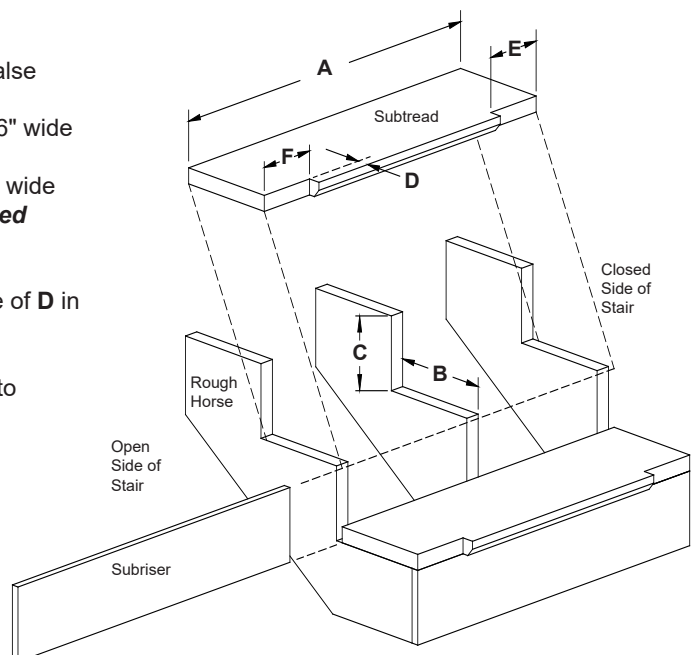
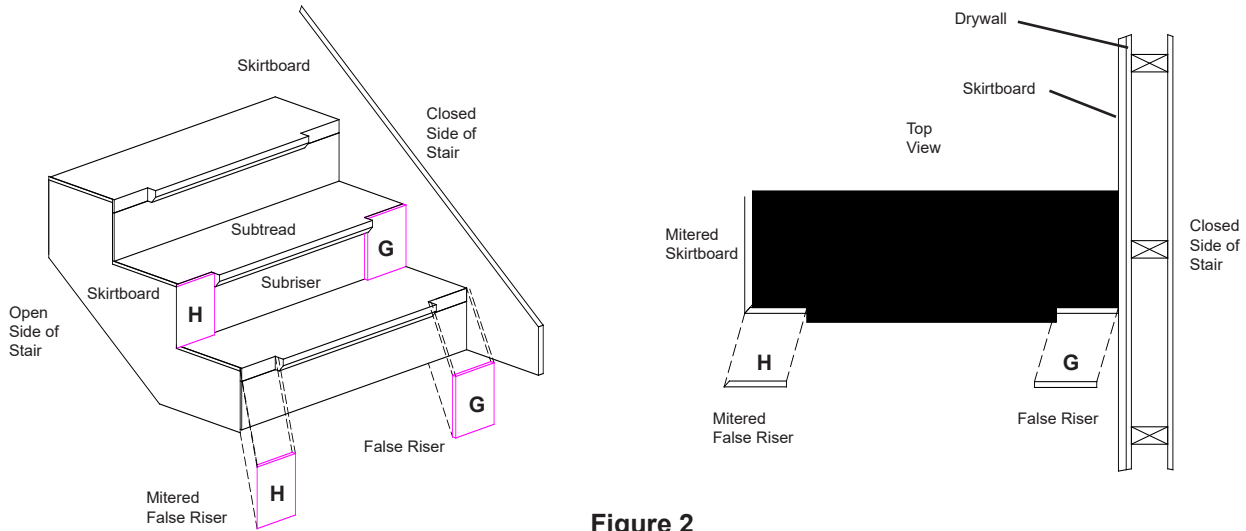

Figure 1
Figure 2
1. Lay out the three rough horses to the required rise and run (C and B respectively). Accuracy is important for ease of fitting the false treads and risers later. (See Figure 1.)
2. Allowing space against the stud wall for drywall and a finished skirtboard, space the rough horses equally and secure the top and bottom into place. (See Figure 1 and Figure 2 page 2.)
3. Cut the subriser to the overall width of the rough stairs and install. (See Figure 1.)
4. Using Figure 1 and the steps below, prepare the subtreads.
If using 2x12's for the subtreads, chamfer the bottom edge of **D** in Figure 1.
5. Install the finished skirtboard on the closed side of the stair. (See Figure 2 page 2, if applicable.)
6. When cutting out the open side finished skirtboard, miter cut each rise at 45° (See Figure 2 page 2.) to avoid exposing end grain on the false riser. Install the finished skirtboard. (See Figure 2 page 2, if applicable.)
1. Fit and install the false risers on the closed side of the stair **G** using glue and finish nails. (See Figure 2.)
2. Cut a 45° miter on all false risers for the open side of the stair **H**. Fit and install the risers on the open side of the stair **H** using glue and finish nails. (See Figure 2.)
4. Install the risers and treads opposite the false starting step. (See Figure 2, 3, and 5c.)